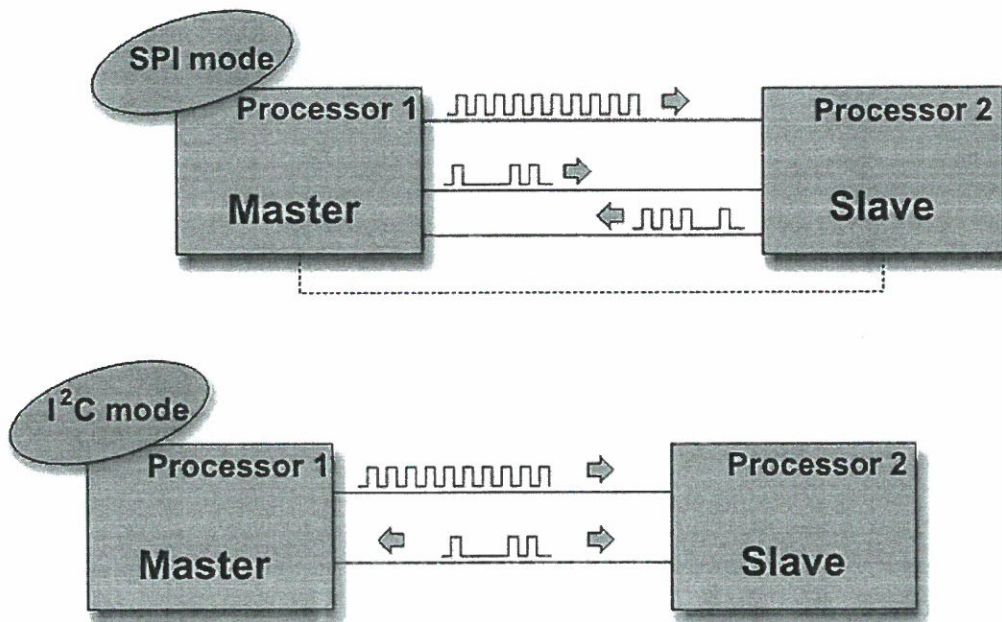

Figure 3(b)
- (b) Describe the serial communications used in PIC microcontroller shown in Figure 3(b). Provide TWO (2) comparisons between SPI mode and I2C mode. (8 marks)